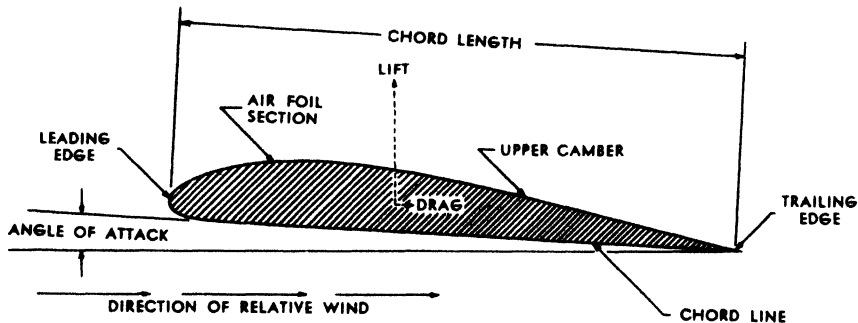

FIG. 221. AIRFOIL.
*ately* perpendicular to the surface of the airfoil; the other parallel to the air stream. The perpendicular force is called "lift"; the force parallel to the air current is called "drag." (See Fig. 73.) Fig. 221 gives the terms pertaining to an airfoil in horizontal flight.